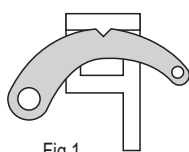

Fig.1
1. Respect all the safety precautions. Place the base of the jack under the load. Put the reversal hook (20) in upper position ("UP") and check that it is locked in place, the hook's split being correctly inserted in the groove on the reversal button (18) - see figure: 1. Lift the nose until it comes in contact with the load up to the desired lifting point. At this stage, check that nothing obstructs correct lifting.
2. Firmly and regularly pull the handle downwards and check the lifting of the load. When the handle comes in the lower position, the locking pin (15) sets in place with a "click" in a hole in the steel bar (3). At this stage, release the handle and let the locking pin (15) take the load. Lift the handle all the way up to find a new support point and pump once again.